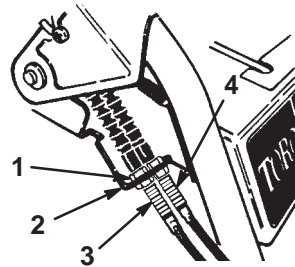

Figure 27
1. Loosen the upper jam nut that secures the traction cable to the mounting bracket (Fig. 27).
2. Rotate the bottom jam nut upward to increase the belt tension (Fig. 27).
- A. Loosen the upper jam nut that secures the auger/impeller cable to the mounting bracket (Fig. 27).
9. On the control cable that corresponds to the belt you are replacing, loosen the jam nuts that secure the cable to the bracket (Fig. 27).